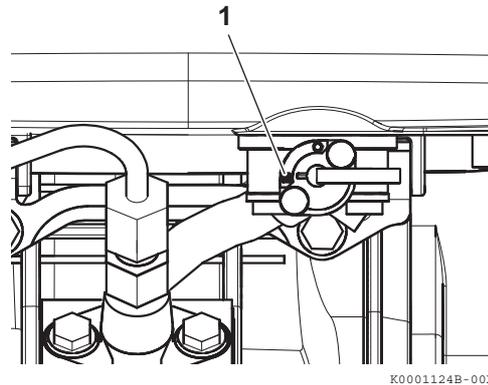

Figure 22
1. Move the fuel cock lever to the closed position (**Figure 22, (1)**).